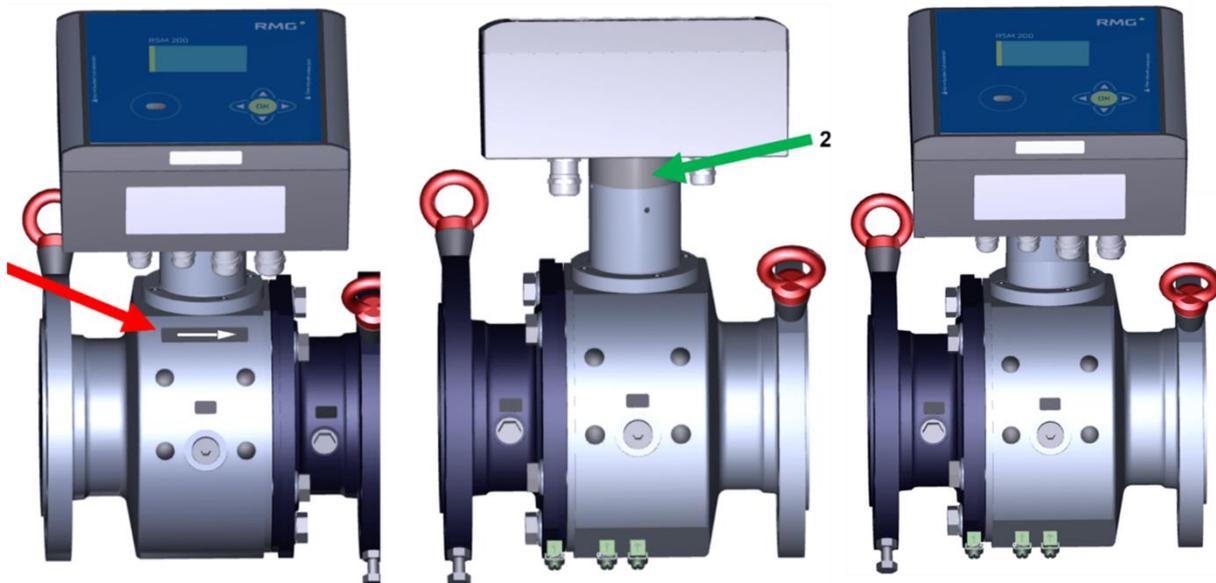

Figure 8: Rotating the display
The RSM 200 is offered in 2 versions; first, the display faces you and the flow direction is from the left side to the right side. Second, the flow direction is reversed. In the *Figure 8: Rotating the display* the red arrow (1) indicates the flow direction for
However, the orientation can be easily changed. The extension on the plug-in axle, green in the illustration (2) between the measuring device and the electronics must be turned 180° for this purpose. In doing so, the device loses neither its calibration nor its parameterization. The measuring device on the right side of figure 8 shows the changed orientation.